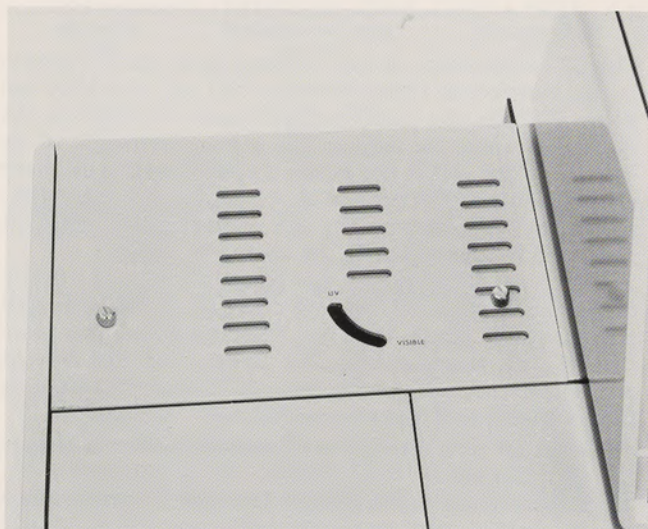

Figure 24. Source Compartment-Sample Compartment Cover
2. Expose source compartment by using a screwdriver to loosen two screws on top of source compartment, Figure 24, and then lifting off the sample compartment-source compartment cover.
2. Expose source compartment by loosening two screws on top of source compartment, Figure 24, and then lifting off the sample compartment-source compartment cover.